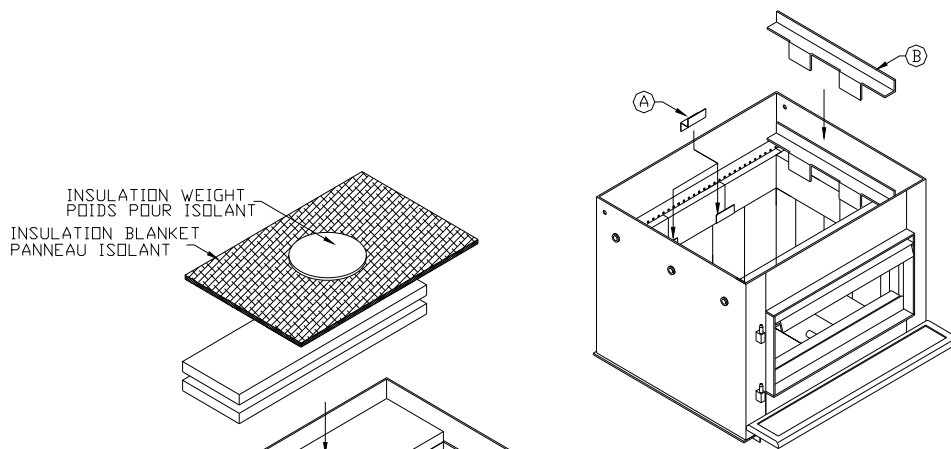

Figure 3.4a
- 1- Install the stainless steel brick retainers (A) on the rear centre bricks intersections.
- 2- Install the first side baffle support (B) on one side of the firebox as shown in figure 3.4a.